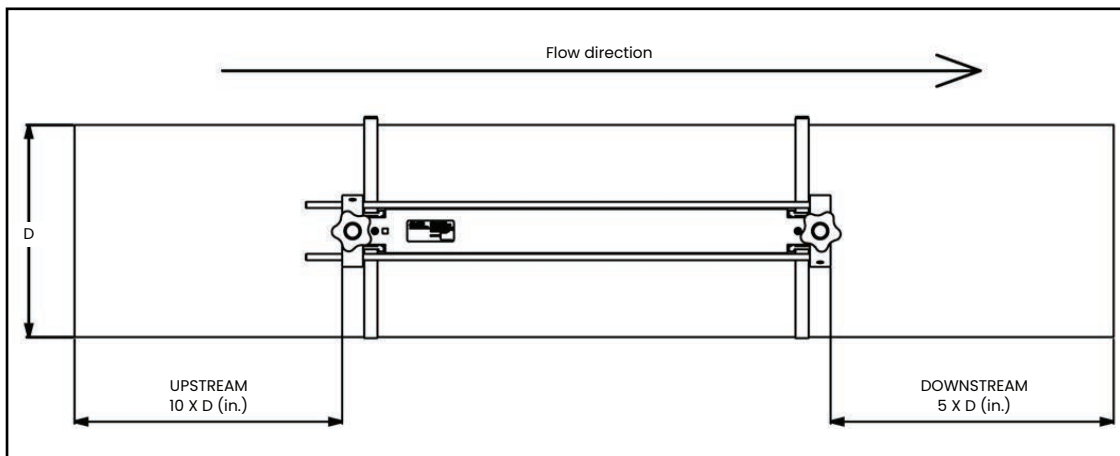

Figure 7: AT600 clamp-on fixture/transducer location
- Position the clamp-on fixture(s) and transducer system so that there are at least 10 pipe diameters of straight, undisturbed flow upstream and 5 pipe diameters of straight, undisturbed flow downstream from the measurement point (see *Figure 7* below). Undisturbed flow means avoiding sources of turbulence in the fluid such as valves, flanges, expansion joints, elbows, swirl, and cavitation.
- a. Choose a location with enough straight pipe run (refer to *Figure 7 on page 7*).